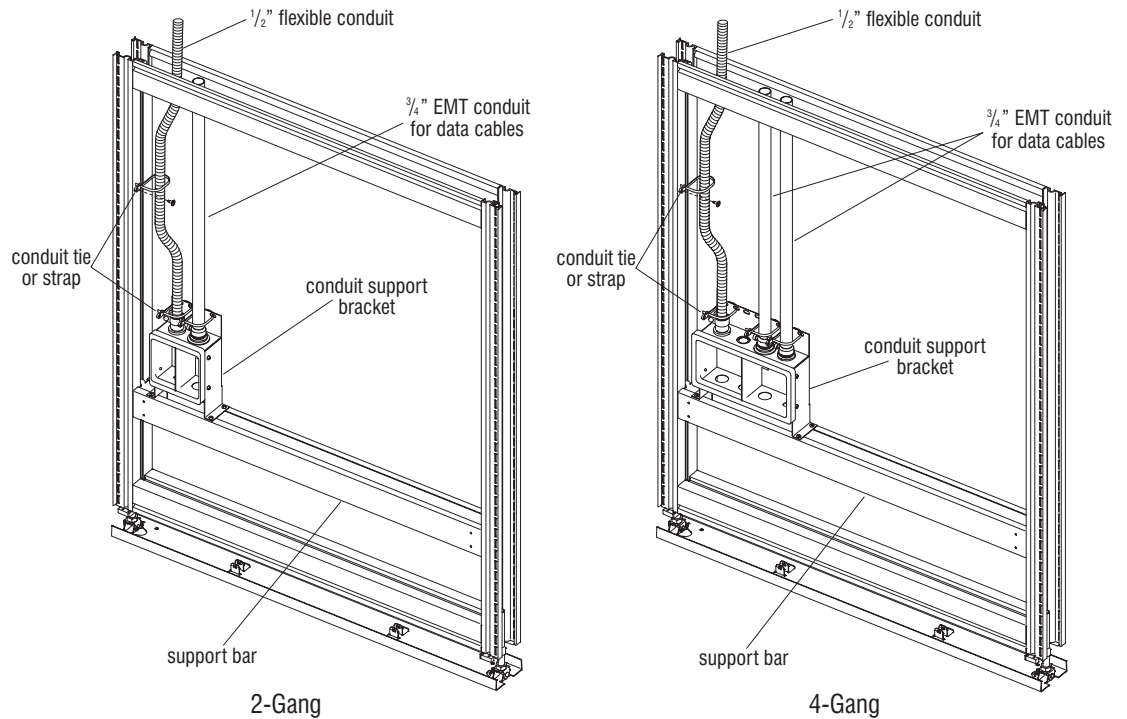

Figure 1
Choose from 1, 2, or 4-gang device boxes. 2-gang and 4-gang boxes are shown (Figure 1).
- 2-gang box receives one $\frac{1}{2}$ " flexible conduit, one $\frac{3}{4}$ " EMT conduit, and one divider plate or two $\frac{1}{2}$ " flexible conduit or two $\frac{3}{4}$ " EMT. (Figure 1).
- 4-gang box receives one $\frac{1}{2}$ " flexible conduit and two $\frac{3}{4}$ " EMT conduit, and one divider plate (Figure 1).
- 2-gang box receives one 1/2" flexible conduit, one 3/4" EMT conduit, and one divider plate or two 1/2" flexible conduit or two 3/4" EMT. (Figure 1).
- 4-gang box receives one 1/2" flexible conduit and two 3/4" EMT conduit, and one divider plate (Figure 1).